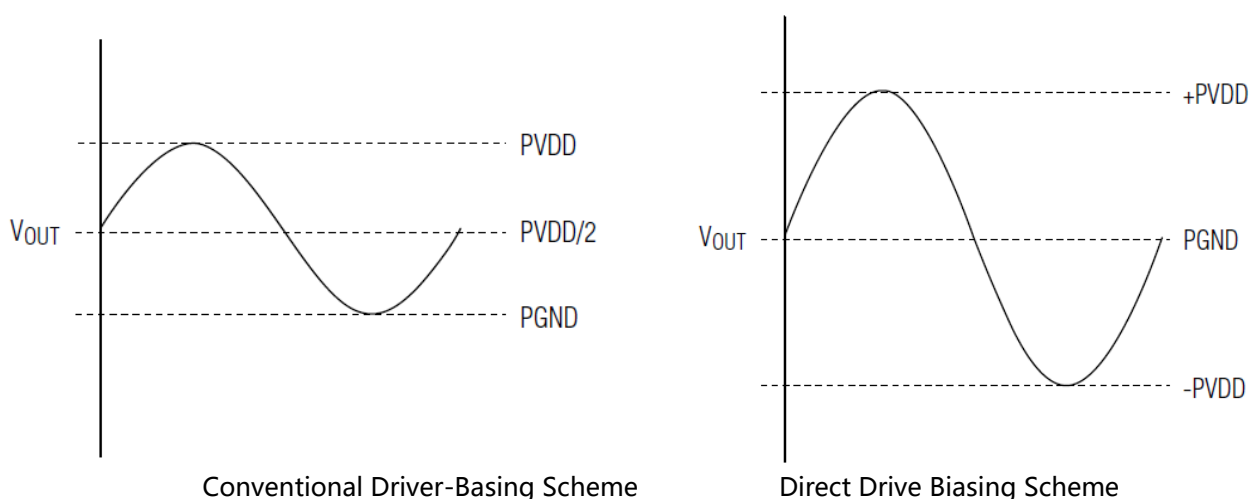

Fig. 1 Conventional Driver Output Waveform vs. HT97180(L) Output Waveform
The HT97180(L) operates from a single supply ranging from 1.65V to 4.8V. An on-chip charge pump inverts the positive supply (PVDD), creating an equal magnitude negative supply (PVSS). The headphone amplifiers operate from bipolar supplies with their outputs biased about PGND (Figure 1). The benefit of this PGND bias is that the amplifier outputs do not have a DC component, typically PVDD/2. The large DC-blocking capacitors required with conventional headphone amplifiers are unnecessary, thus conserving board space, reducing system cost, and improving frequency response. Output power of 125mW into 32Ω is achievable from a 4.2V supply. The device features an under-voltage lockout that prevents operation from an insufficient power supply and click-pop suppression that eliminates audible transients on startup and shutdown.